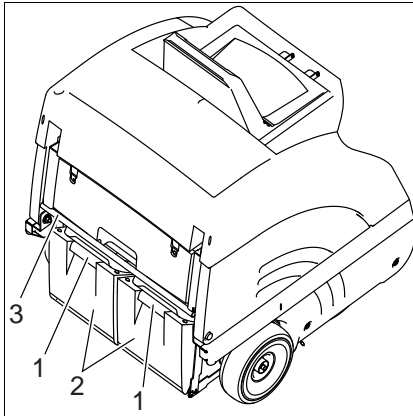

Fig.10 **Dirt Hoppers**
- Fold bow (Fig. 10/3) up and the dirt hoppers (Fig. 10/2) are lowered.
- Use the recessed grip (Fig. 10/1) of one of the hoppers to lift it lightly and extract it.
- Re-insert dirt hopper (Fig. 10/2) and fold down the bow (Fig. 10/3).